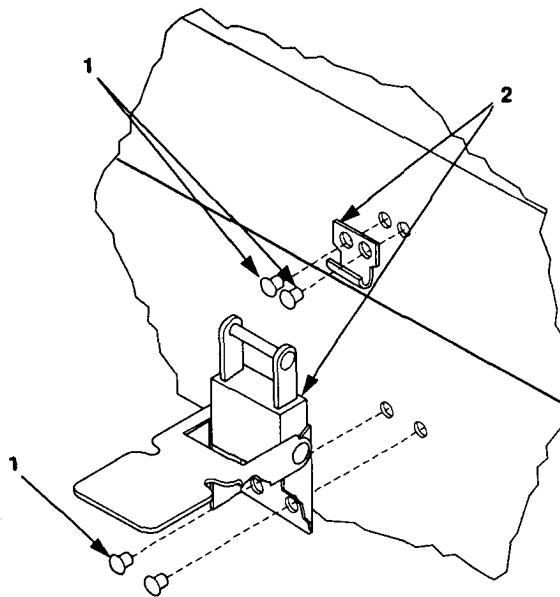

Figure 4-11. Clamping Catch Replacement
1. Drill out rivets (1, figure 4-11) that secure clamping catch (2)
2. Remove defective clamping catch (2).